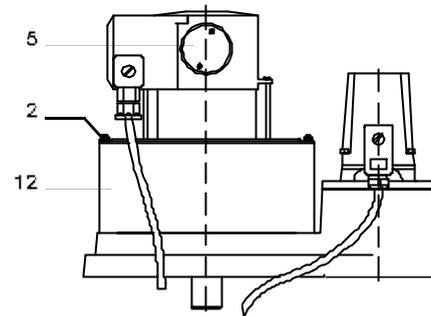

Fig. 7.2.1. 3
- Unscrew the cover (5, see fig. 7.2.1.-3).